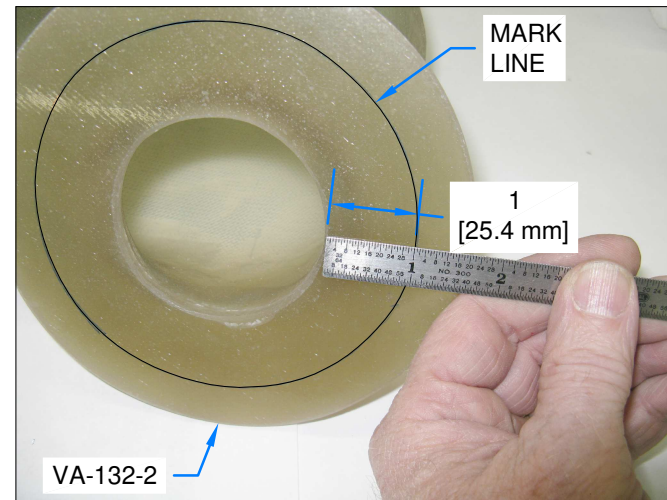

FIGURE 1: MARK SNORKEL
Step 1: Clamp the snorkel to the fuel injector servo flange with spring clamps. See Figure 1.